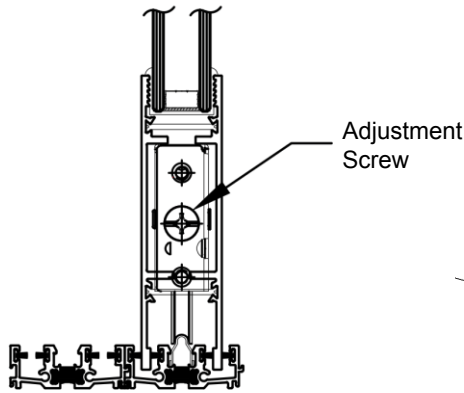
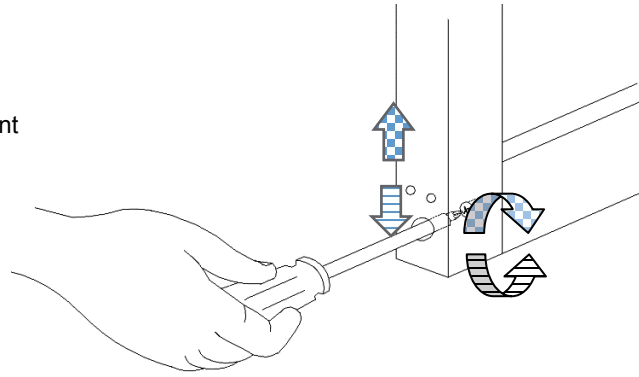

FIGURE 13A
FIGURE 13B
18. Temporarily adjust the panel upward by lifting the panel and turning the adjustment screw shown in figure 13a clockwise as shown in figure 13b until the rollers regain contact with the track. It is important to physically lift the panel while adjusting upward so that the adjustment screw does not strip due to the weight of the panel. Adjust the rollers of the active panels by turning the adjustment screw shown in figure 13a to achieve proper alignment of the door panels (it is easier to adjust down than up). Turn screw clockwise to raise the panel and counterclockwise to lower the panel as shown in figure 13b.